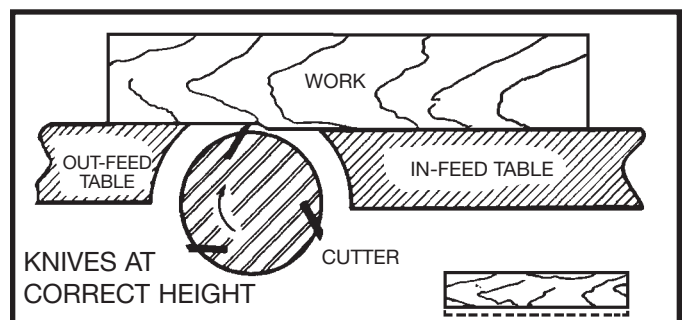

Fig. 45
9. As a final check, run a piece of work slowly over the knives for 6 to 8 inches. The wood should rest firmly on both tables as shown in Fig. 45, with no open spaces under the finished cut.